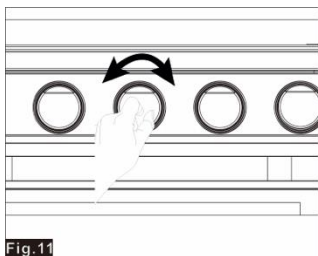

Fig.11
5. Push and turn the burner control knob to adjust the flame level. (Fig 11)